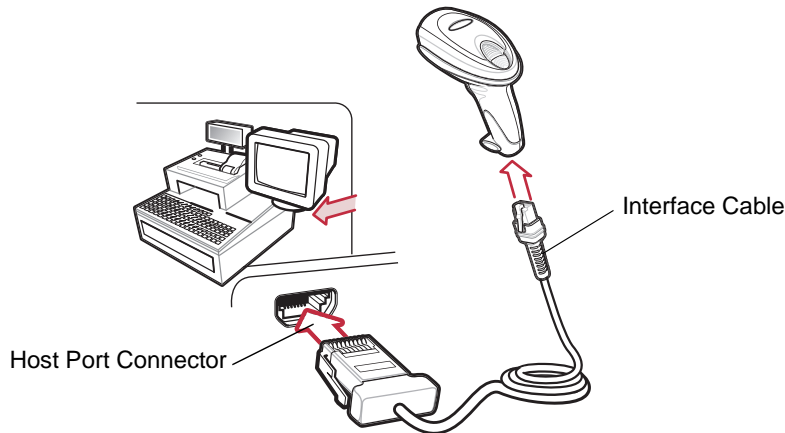
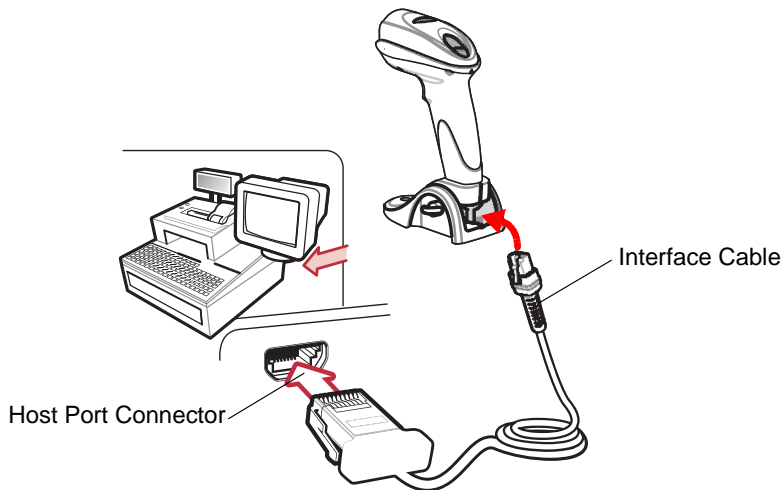

Figure 8-1 IBM Direct Connection
Figure 8-2 IBM Direct Connection for Scanner with Base
- ✓ **NOTE** Interface cables vary depending on configuration. The connectors illustrated in Figure 8-1 and Figure 8-2 are examples only. The connectors may be different than those illustrated, but the steps to connect the scanner are the same.